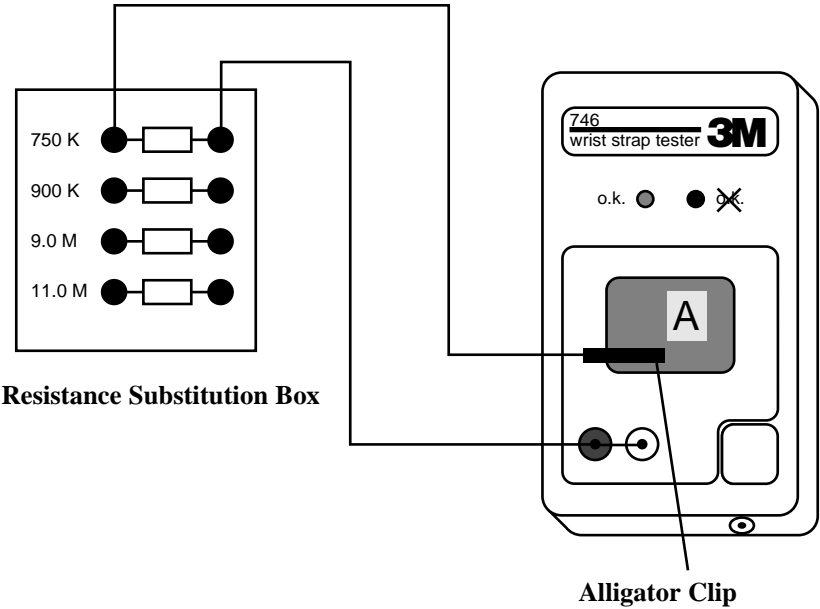

FIGURE 2
Connect the resistance substitution box to the tester as shown in Figure 2.
*This example is used in Figure 2